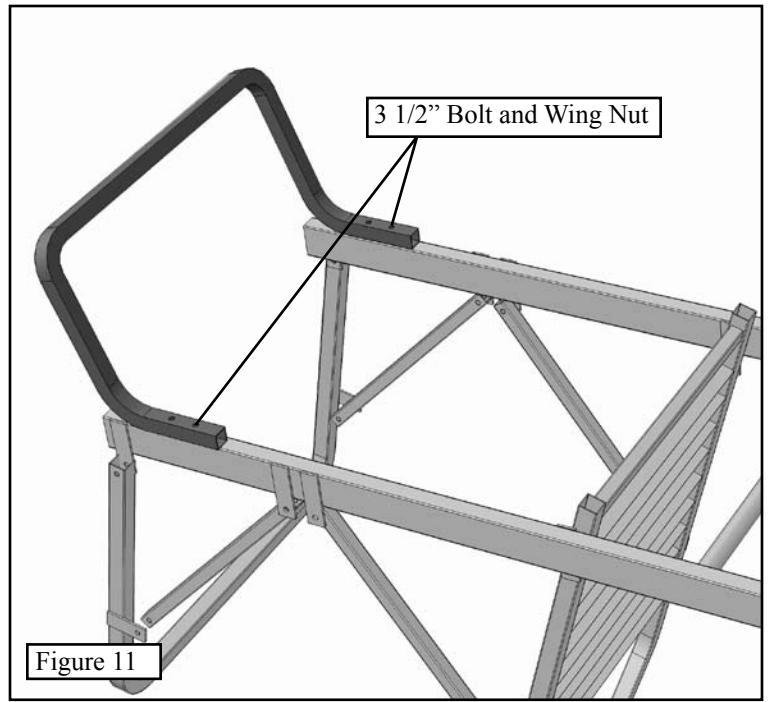

Figure 11
Step 1. Attach the gun rest bar as shown in **Figure 11**. Use two 3 1/2" bolts and wing nuts to secure it. Hand tighten this connection. The bar can be positioned higher or lower depending on which set of holes in the bar you use.